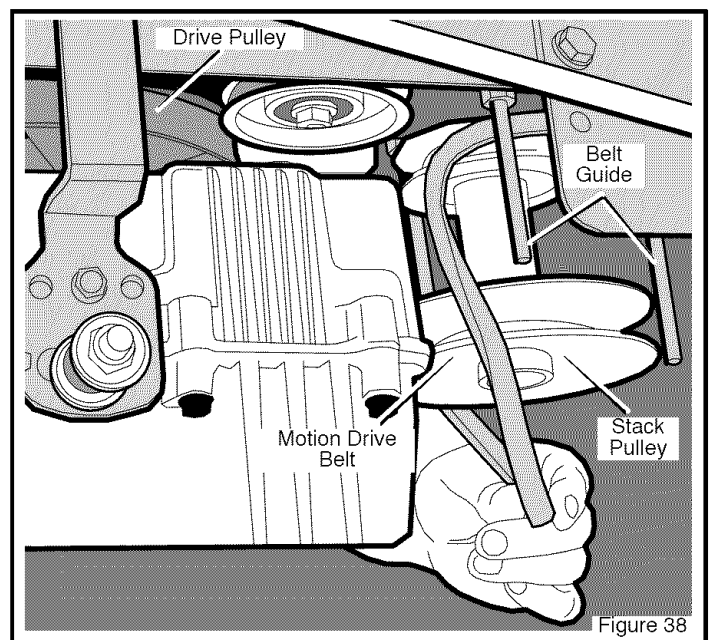

Figure 38
7. Slip the rear of the **motion drive belt** over the **drive pulley** and out the front of the transmission. Then, pull the **motion drive belt** down between the **belt guides** and the **stack pulley** (see Figure 38).